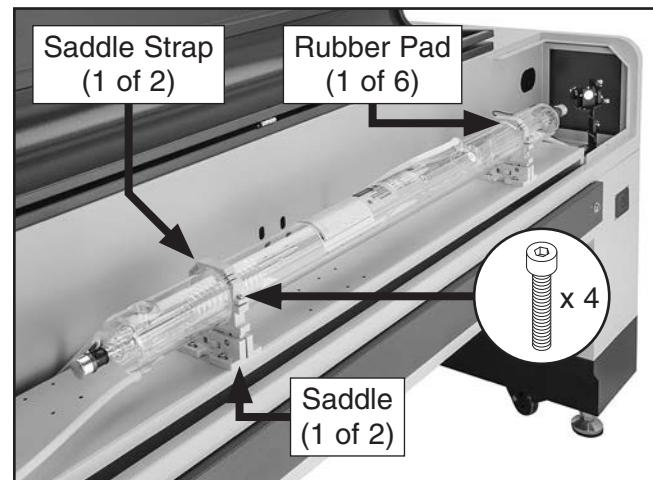

Figure 102. Laser tube saddles installed.
- Clean rubber pads on saddle straps and place on laser tube above saddles, as shown in **Figure 102**.